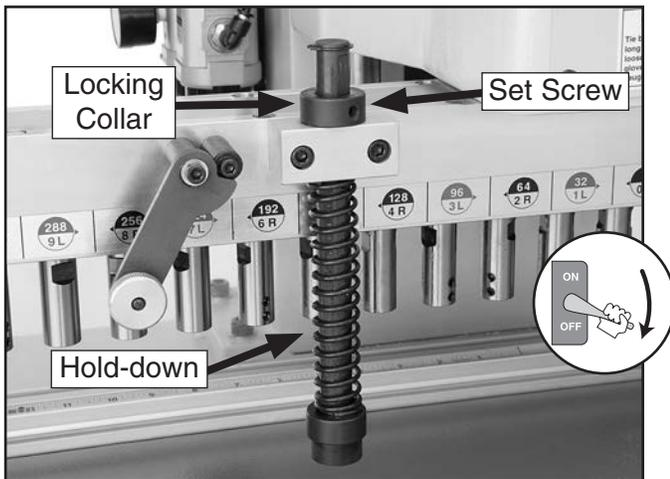

Figure 22. Workpiece hold-down (front boring head guard removed for photo clarity).
2. Loosen the locking collar set screw so that the collar moves freely on the hold-down shaft (see **Figure 22**).